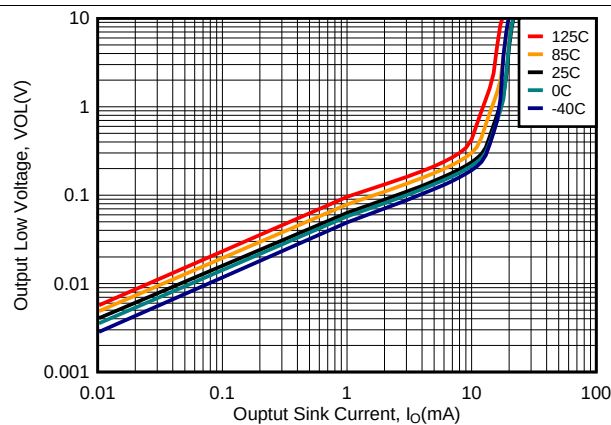

Figure 5. Output Low Voltage vs. Output Current
Output current is determined by the load/pull-up resistance and logic/pull-up voltage. The output current will produce a output low voltage (V_{OL}) from the comparator. In which V_{OL} is proportional to the output current. Use Figure 5 to determine V_{OL} based on the output current.
- R_{CE} can be determine by taking the slope of Figure 5 in it's linear region at the desired temperature, or by dividing the V_{OL} by I_{out}